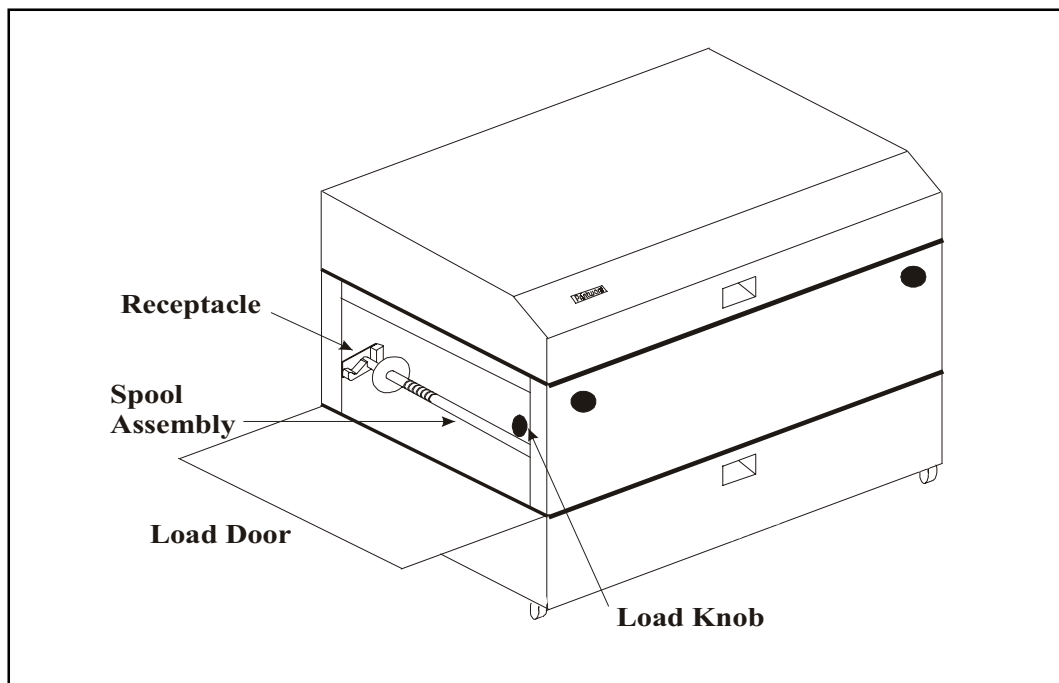

Figure 3-2 Location of Spool Assembly
2. Open load door and pull on the load knob. (see Figure 3-2). Remove the spool assembly from the Platesetter. Adjust the two rear edge guides inside the Platesetter by pulling the edge guide knobs up and sliding to the position closest to the plate media width.